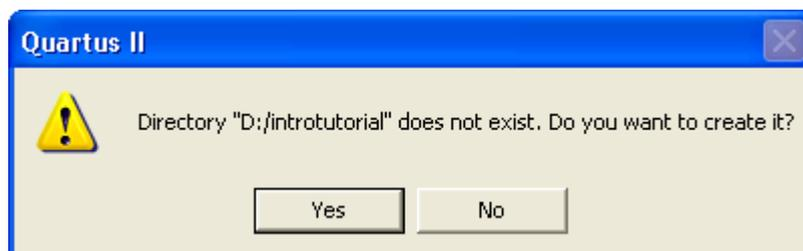
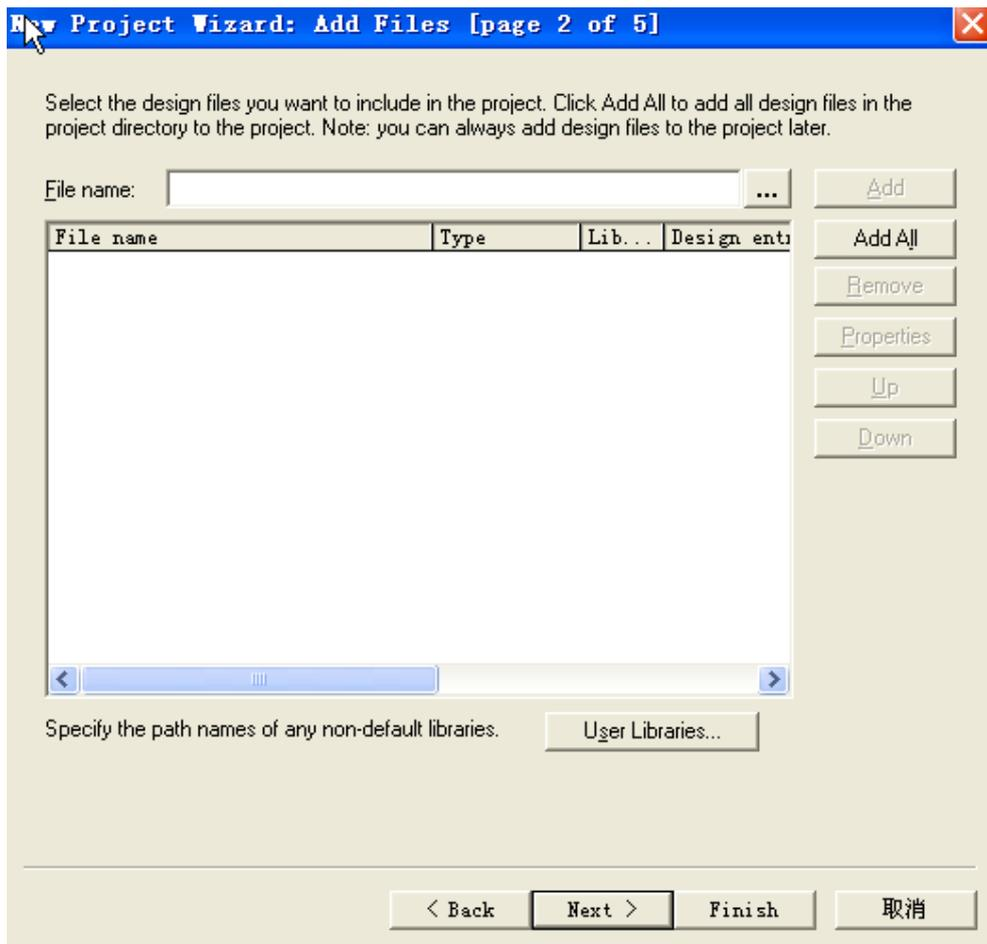
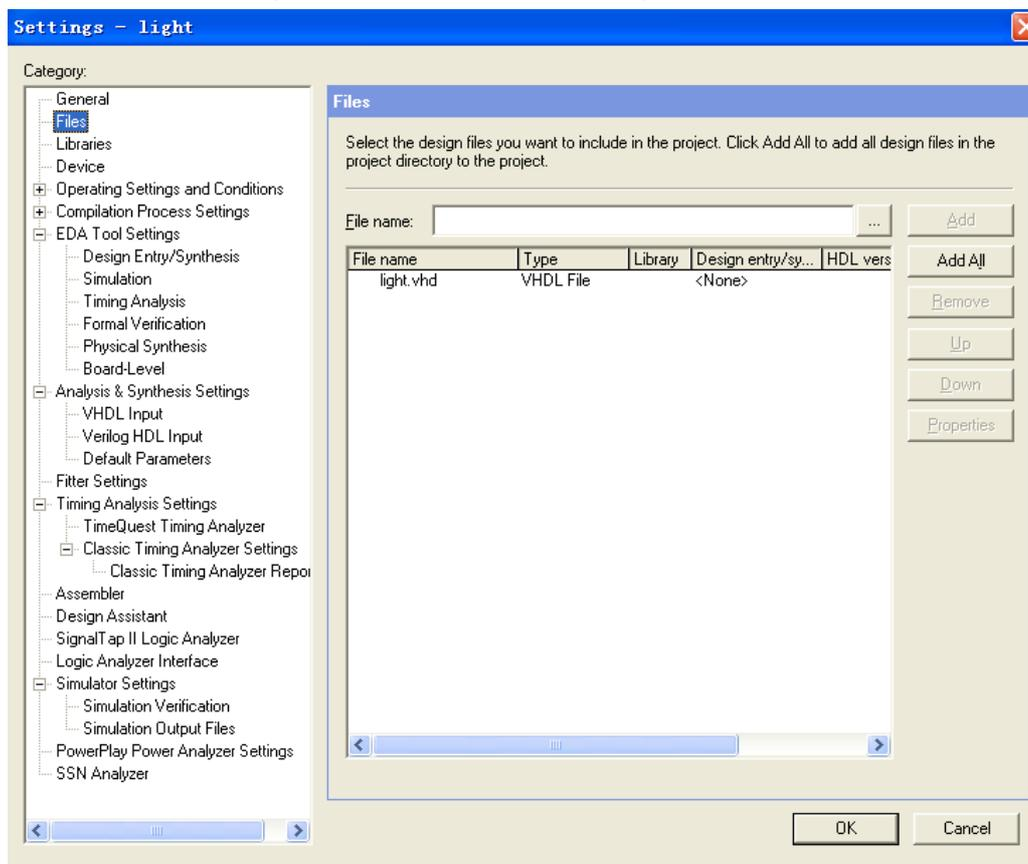
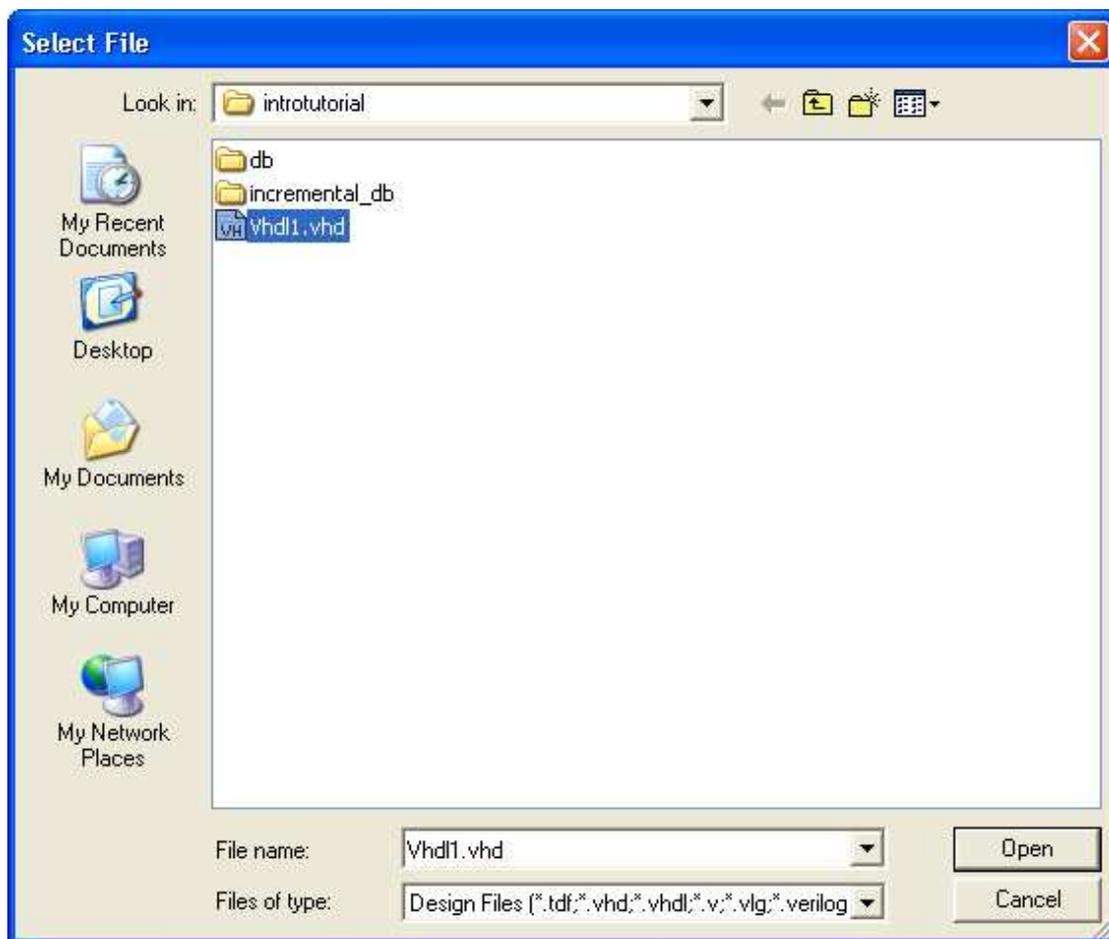

Figure 6. Quartus II software can create a new directory for the project.
Figure 7. The wizard can include user-specified design files.
Figure 17. Settings window.
Figure 18. Select the file.
2. Set the working directory to be introtutorial; of course, you can use some other directory name of your choice if you prefer. The project must have a name, which is usually the same as the top-level design entity that will be included in the project. Choose light as the name for both the project and the top-level entity, as shown in Figure 5. Press **Next**. Since we have not yet created the directory introtutorial, Quartus II software displays the pop-up box in Figure 6 asking if it should create the desired directory. Click **Yes**, which leads to the window in Figure 7.
As we indicated when discussing Figure 7, you can tell Quartus II software which design files it should use as part of the current project. To see the list of files already included in the light project, select **Assignments > Settings**, which leads to the window in Figure 17. As indicated on the left side of the figure, click on the item **Files**. An alternative way of making this selection is to choose **Project > Add/Remove Files in Project**.
If you used the Quartus II Text Editor to create the file and checked the box labeled Add file to current project, as described in Section 3.1, then the light.vhd file is already a part of the project and will be listed in the window in Figure 17. Otherwise, the file must be added to the project. So, if you did not use the Quartus II Text Editor, then place a copy of the file light.vhd, which you created using some other text editor, into the directory introtutorial. To add this file to the project, click on the File name: button in Figure 17 to get the pop-up window in Figure 18. Select the light.vhd file and click Open. The selected file is now indicated in the Files window of Figure 17. Click OK to include the light.vhd file in the project. We should mention that in many cases the Quartus II software is able to automatically find the right files to use for each entity referenced in VHDL code, even if the file has not been explicitly added to the project. However, for complex projects that involve many files it is a good design practice to specifically add the needed files to the project, as described above.